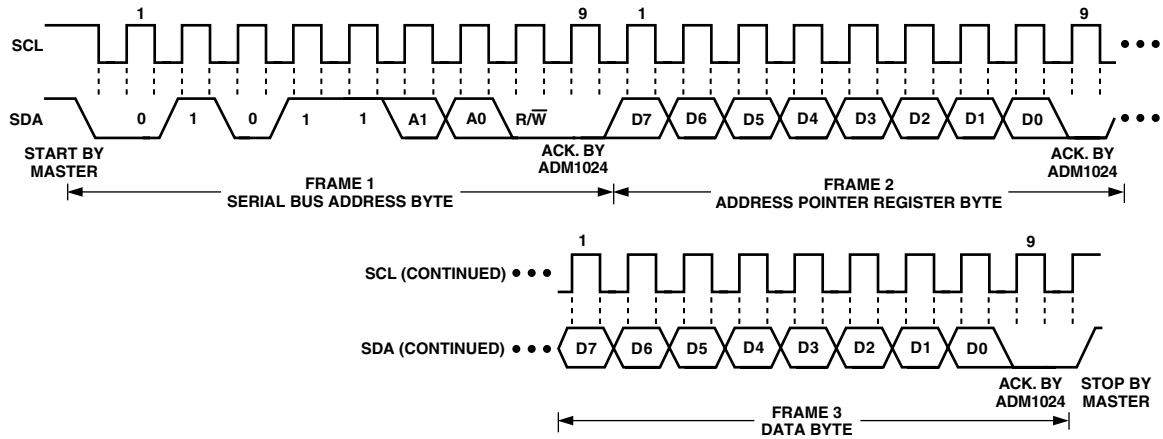

Figure 2a. Writing a Register Address to the Address Pointer Register, then Writing Data to the Selected Register
selected by the Address Pointer Register. This is illustrated in Figure 2a. The device address is sent over the bus followed by R/\overline{W} set to 0. This is followed by two data bytes. The first data byte is the address of the internal data register to be written to, which is stored in the Address Pointer Register. The second data byte is the data to be written to the internal data register.
2. In Figures 2a to 2c, the serial bus address is shown as the default value 01011(A1)(A0), where A1 and A0 are set by the three-state ADD pin.